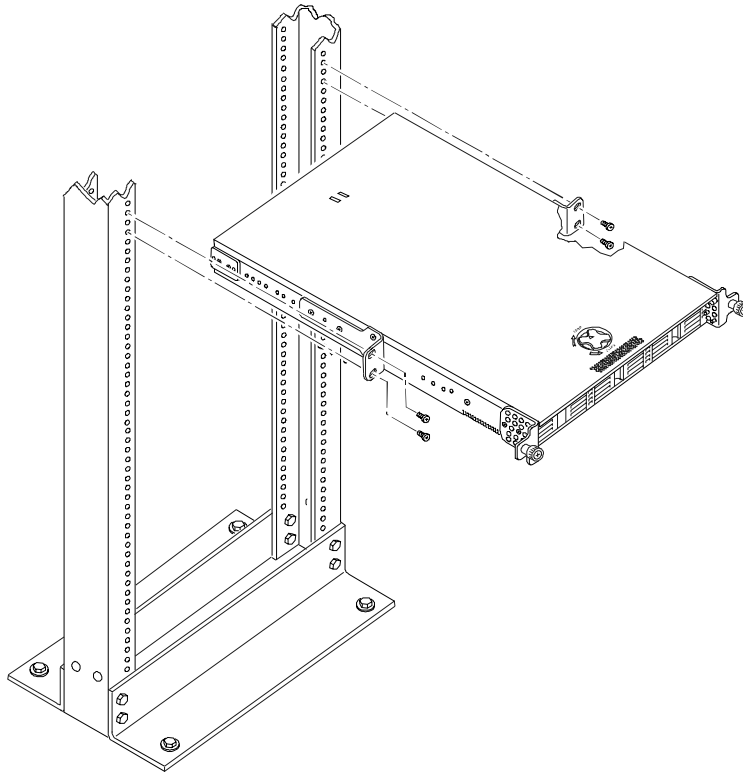

Figure 7-7. Center Mounting in the Rack
6. If mounting the Netserver with the center mounts, follow Steps 1-5 for the center mount brackets. See Figure 7-7.